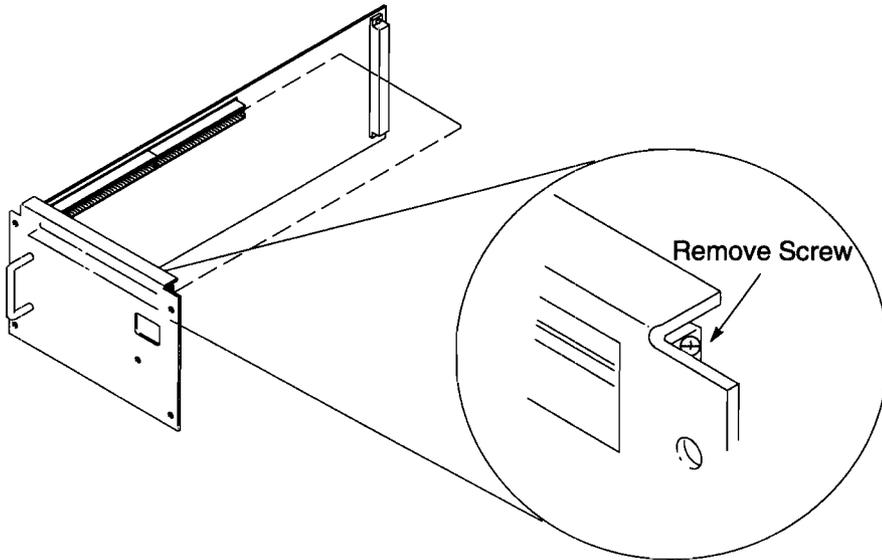

Figure B-7. Preparing the Adapter for the EISA Card
5. Prepare the adapter to accept the EISA card by removing and saving the single screw that secures the blank EISA slot cover in place on the adapter cover plate, as shown in Figure B-7. Remove the blank EISA slot cover from the adapter cover plate.